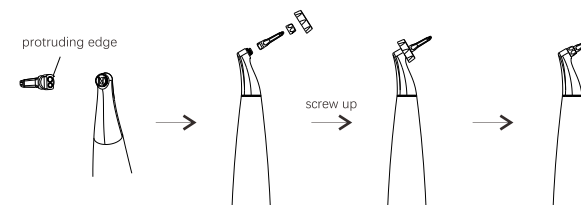

Figure 9 Installation of Periodontal Nozzle
1. Install the periodontal nozzle before use, take the nozzle and assemble it to the top of the handpiece according to the positioning direction, then use the wrench to lock the locking cap to the nozzle. (See Figure 9)